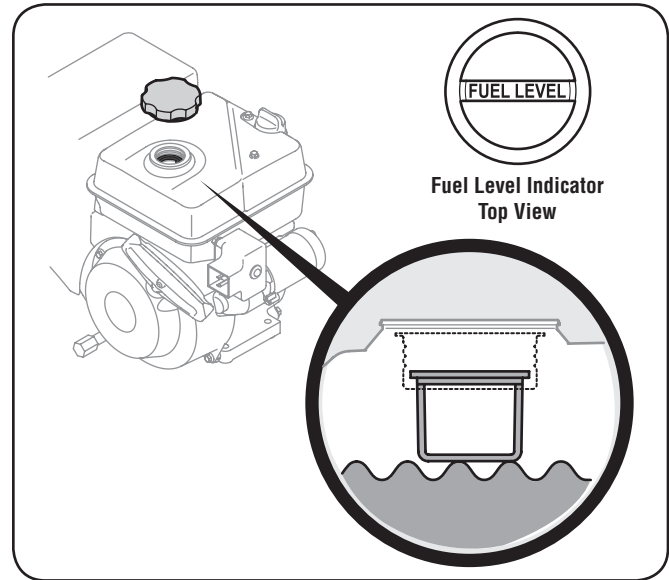

Figure 3-4
**NOTE:** On tanks with a fuel level indicator, fill the tank until the fuel reaches the "fuel full" indicator mark. See Figure 3-4. All other tanks, fill tank until the fuel reaches a ½ inch below the bottom of the filler neck to allow space for fuel expansion. Be careful not to overfill.